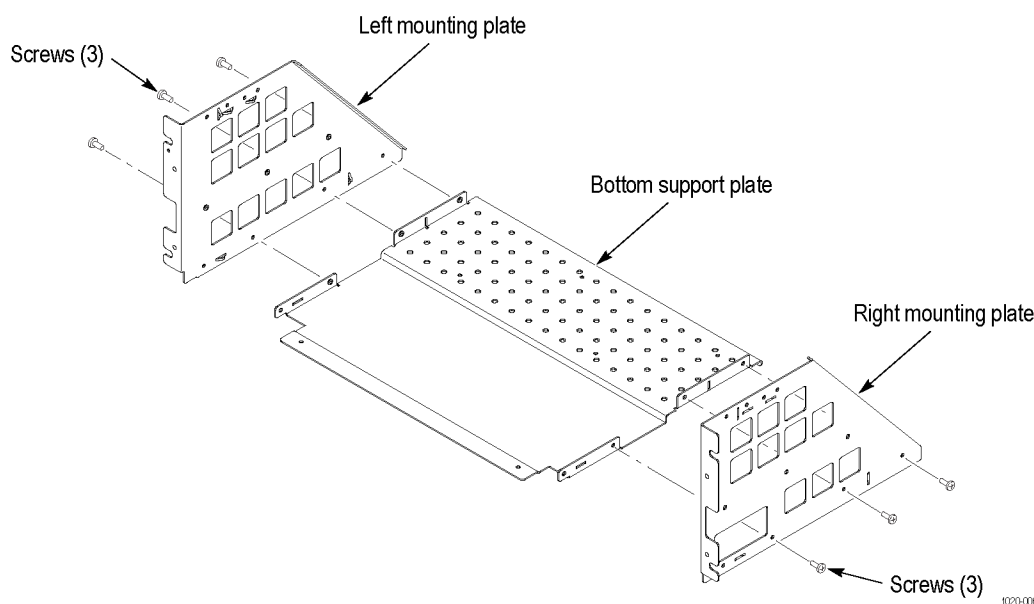

Figure 6: Assembling the left and right mounting plates
1. Assemble the left and right mounting plates to the bottom support plate using six 6-32 x 0.250 inch pan head T-15 TORX-drive screws tightened to 8 in-lb. (See Figure 6.)